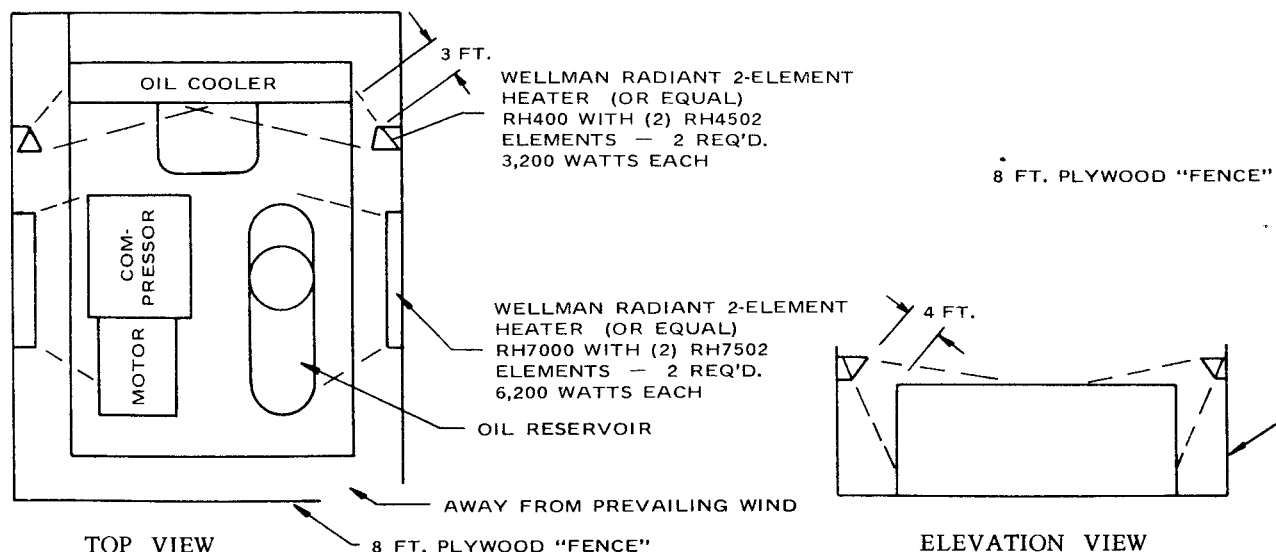

FIGURE 4-2.
The heaters should be sized to provide at least a +10° F. environment for the coolers, motor and sump. Figure 4-2 shows how these might be located in a typical installation and sizes required.
**AUXILIARY AIR RECEIVER** — Constant speed control units do not normally use an auxiliary air receiver. Automatic start-stop, dual and duomatic control units require an auxiliary air receiver unless the piping system is large and provides sufficient storage capacity to prevent rapid cycling. When used, an air receiver should be of adequate size, provided with a relief valve of proper setting, a pressure gauge and a means of draining condensate. Figure 4-2 shows a typical air receiver and auxiliary accessories.